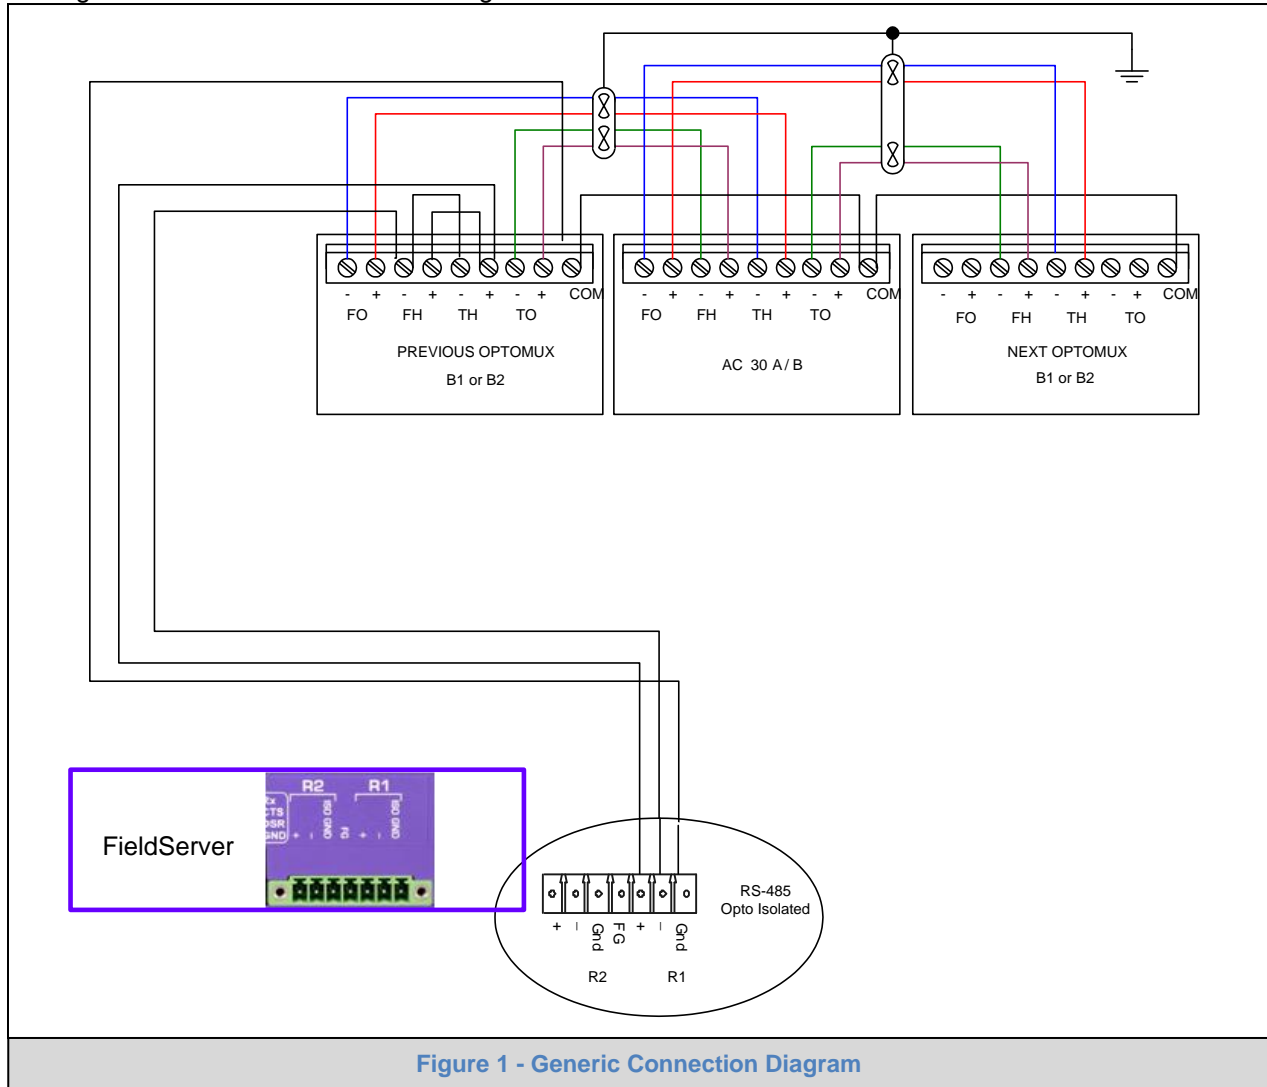

Figure 1 - Generic Connection Diagram
- Figure 1 - Generic Connection Diagram 6